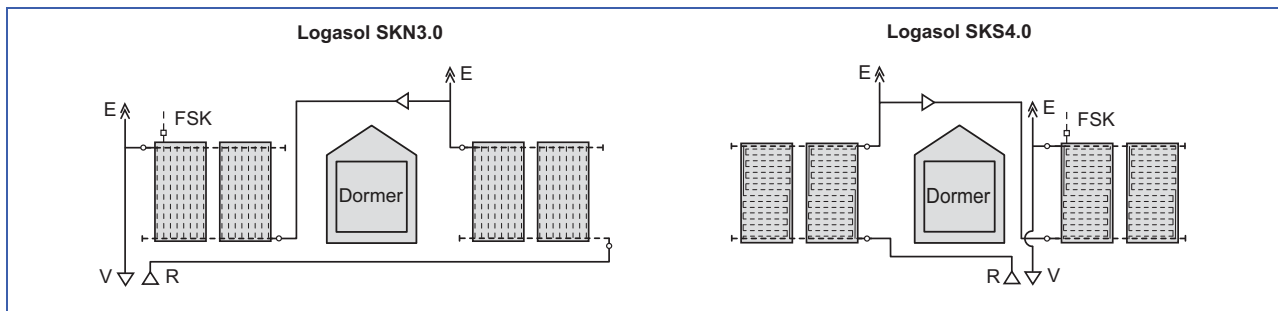

Fig. 82 Hydraulic connection of collector arrays that are interrupted by a dormer
As far as Fig. 82 is concerned, take into consideration that the actual flow rate is calculated from the individual collectors connected in series, the number of rows, and the nominal collector flow rate (0.22 gpm):
- Read from Fig. 82: 4.45 in H2O per collector row